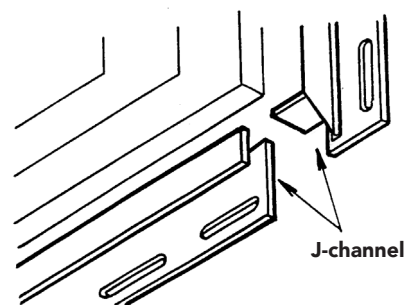

Figure 56
- A miter cut and tab can be provided at the bottom of the window (Figure 56), depending on the sill's condition.